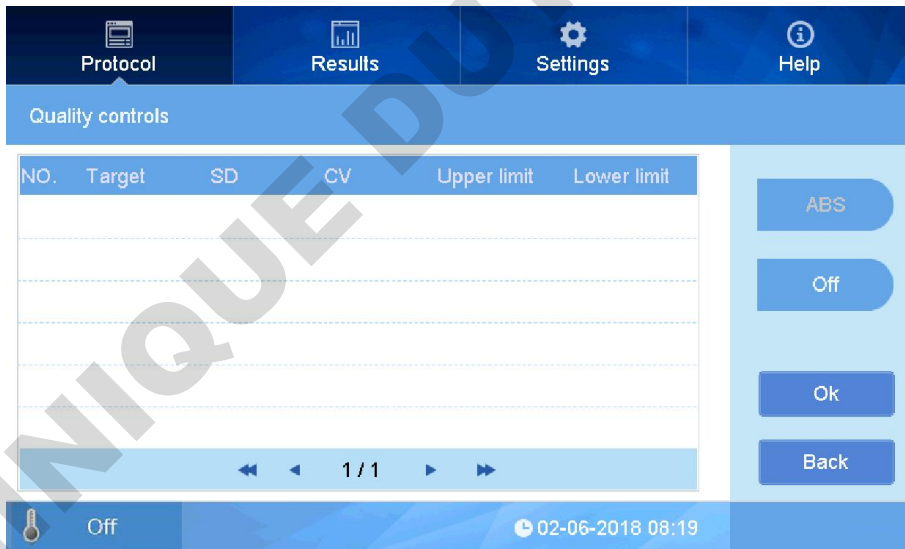

fig 32
- In interface “protocol”, press white area near “Quality”, interface “Quality controls” as below(Fig 32):